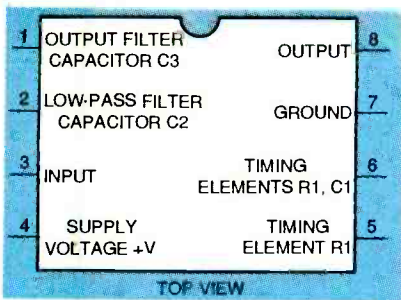
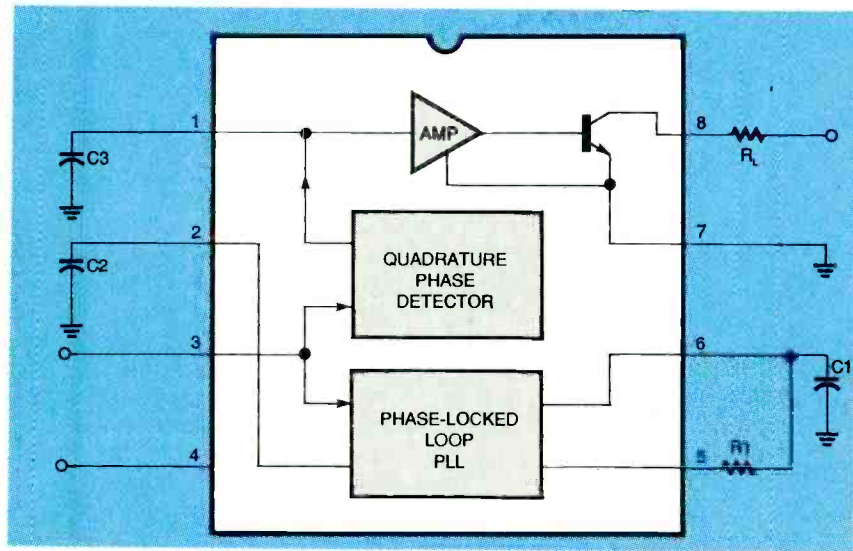

FIG. 1—PINOUT FOR AN NE567 TONE decoder in a eight-pin DIP package.
FIG. 2—BLOCK DIAGRAM OF AN NE567 TONE DECODER.
The sweep can be started at the same instant as the X-Y chart recorder by connecting the common lead to ground from resistors R31, R32, and R33 through a normally closed (NC) pushbutton switch shown on schematic Fig. 1. Connect a closed-circuit miniature phone jack, a plug, and cable to the pushbutton switch. Press the pushbutton and hold it as soon as the retrace is complete, and it will stop the sweep until you are ready to start recording.
This article is based on the Philips NE567 tone decoder/phase-locked loop. The device is a low-cost commercial version of the 567 packaged in an eight-pin plastic DIP. Figure 1 shows the pin configuration of that package, and Fig. 2 shows the